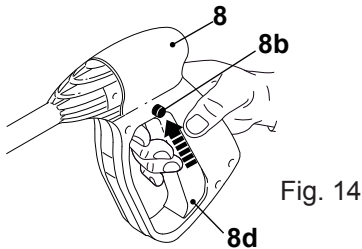

Fig.14, trigger lock activated, the trigger is locked in the off position
1. Activate the trigger lock by pressing the activate button (8b) when the product is not in use, when it is left unattended or when setting the product down (Fig. 14).
Note: The spray gun (8) is equipped with a trigger lock in order to prevent accidental activation of the trigger (8d). Activate the trigger lock when the product is not in use, when it is left unattended or when setting the product down (Fig. 14).